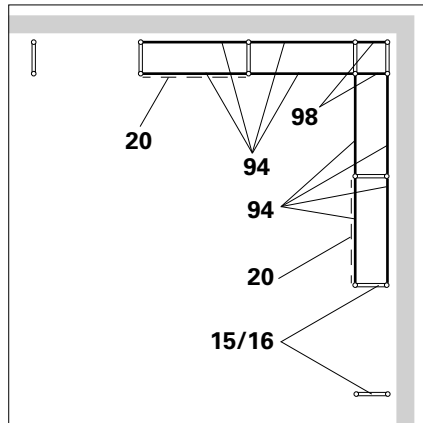

Fig. B6.07a
In this version of the assembly process, the decks on the base level are taken out again. (Fig. B6.07a)
- For the arrangement of horizontal ledgers and face braces, see Fig B6.07a + B6.07b).